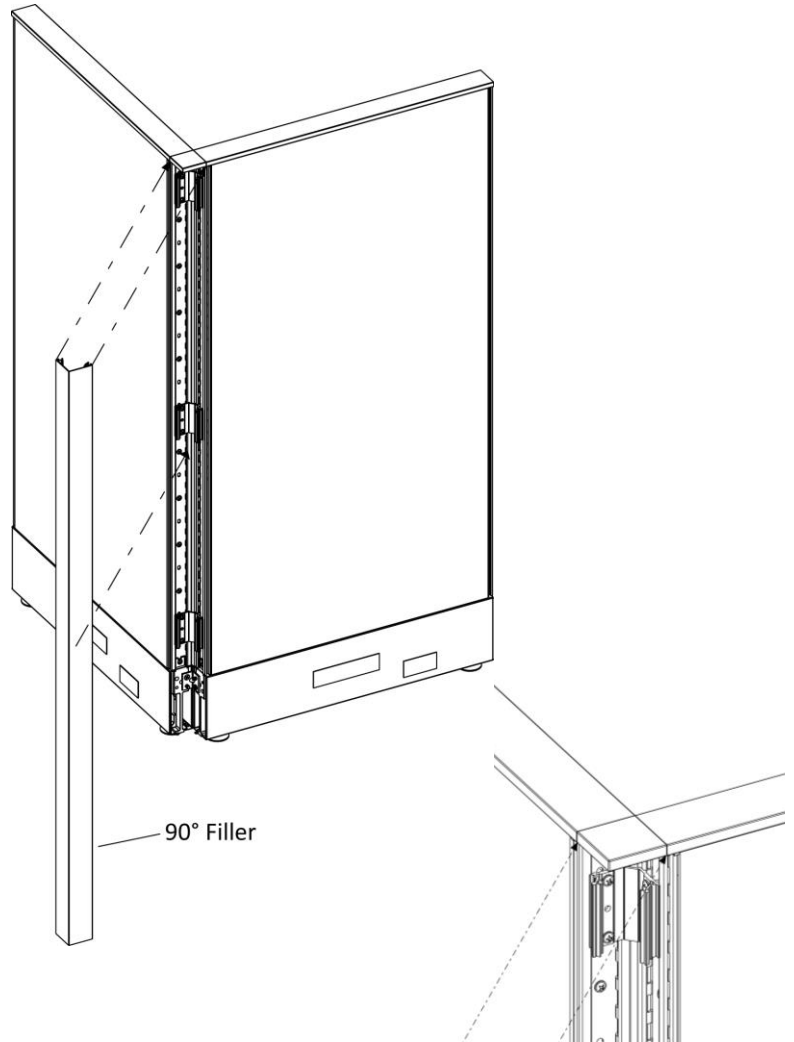

**Figure 1**
1. Install end trim by inserting the corner cap with end trim into the top trim and pressing the end trim into the vertical extrusion, (Figure 1).